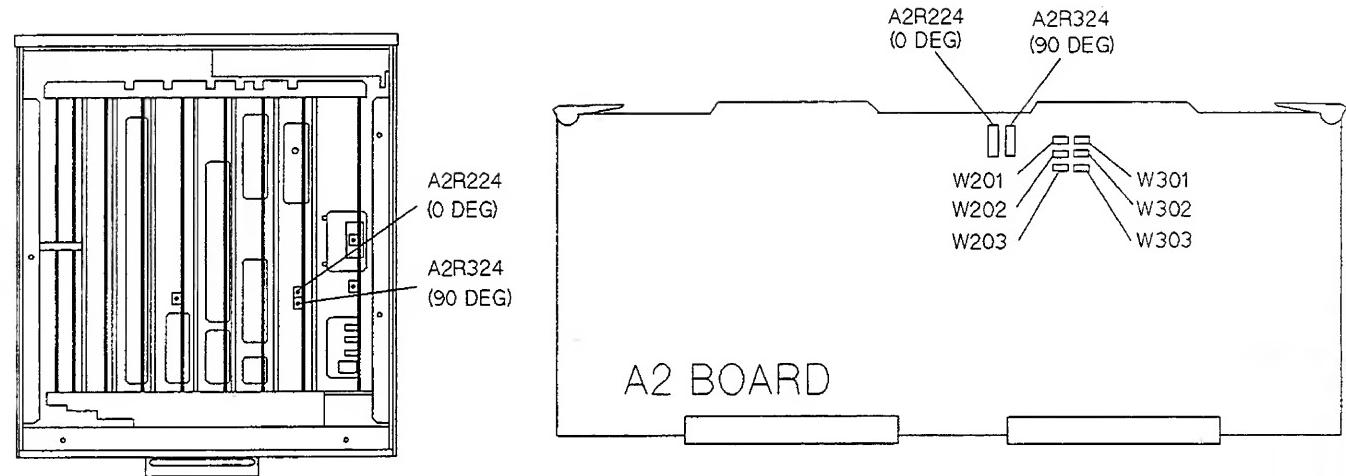

Figure 2-16. Zero Offset Adjustment Location
4. Perform the zero offset adjustment according to the program instruction. Figure 2-16 shows the A2R224 (**0 DEG**) and A2R324 (**90 DEG**) locations.